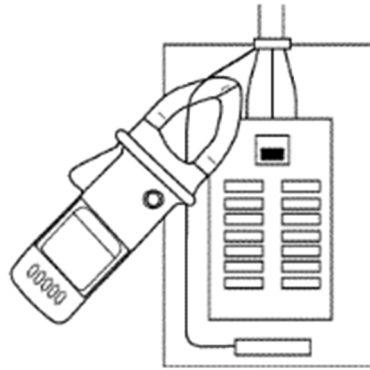

Figure 1: Example scenario: Indicated panelboard which is supposed to feed new transformer
4. Use digital clamp meter as shown on Figure 1 to measure current per each single phase.